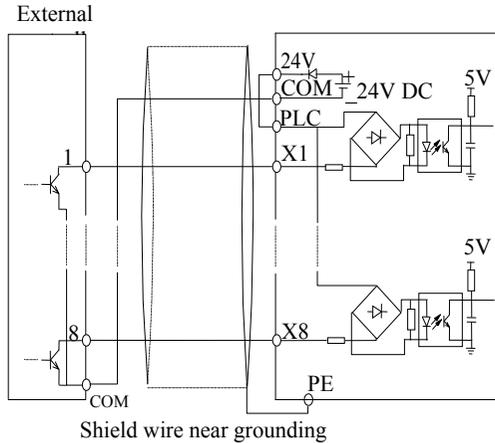

Fig. 2-22 Source connection method by using inverter's internal +24 V power supply (in 3R75GB/31R5PB~3004GB/35R5PB only X1~X5)
1) Inverter's internal +24V power supply is used and the external controller uses NPN transistors whose common emitters are connected, as shown in Figure 2-22.